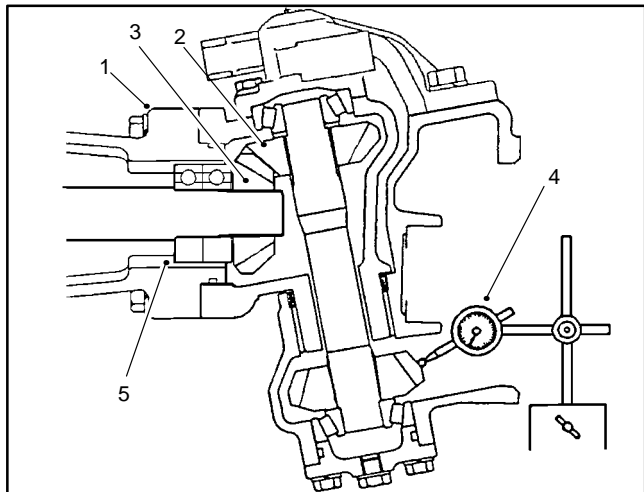

Figure 21
7. Temporarily install the bevel gear case/axle case assembly on the axle support. Position a dial indicator at the tooth's center. Prevent the axle from turning and measure the upper bevel gear to differential shaft gear backlash (Fig. 21).